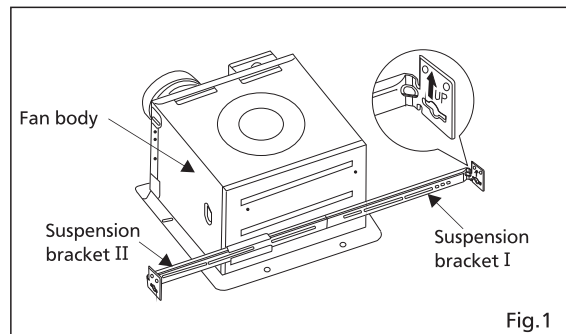

Fig.1
2. Insert the suspension bracket I and II into the fan body. (Select the suspension bracket connection holes as shown below) (Fig.1)